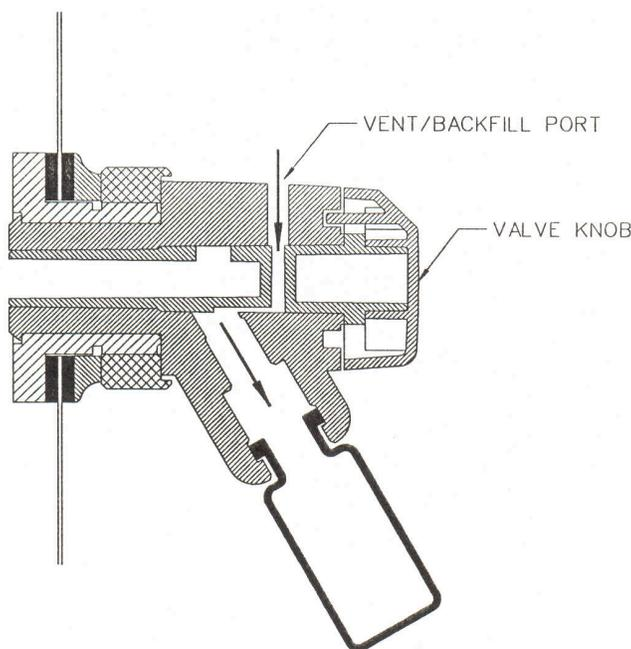

Figure 2
3. Make sure all sample valves are in the vent position. (The bevel on the knob should point away from the sample port). See Figure 2. This will allow vacuum to build in the system.